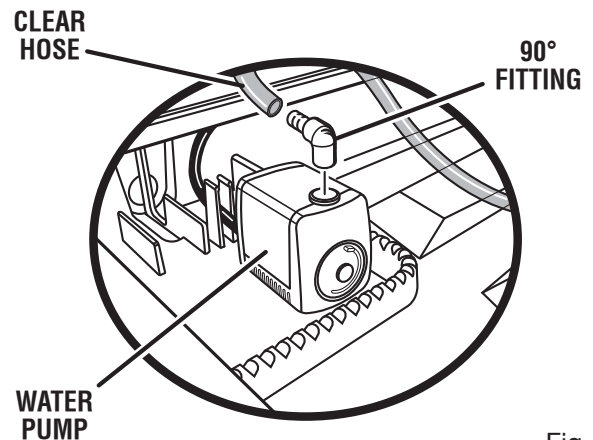

Fig. 13
- Position the pump as shown in Figure 13, with the hose end of the fitting facing the rear of the tray.